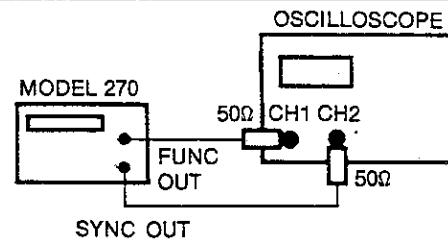

Figure 2-3. Setup
Make the equipment setup as shown in figure 2-3 and perform the steps in table 2-3 to verify Model 270 operation. If further explanations are required, refer to figure 3-1 and table 3-1.
| 14 | Quality Assurance Procedure | Connect Model 270 and oscilloscope as shown in figure 2-3. Scope setting: CH1 2 V/div, horizontal 0.2 ms/div; CH2 2 V/div; trigger on CH2. | Press: RCL 2000 EXEC | Display: (0) BEGIN QA PROC Scope: CH1 5 Vp-p 1 kHz sine wave CH2 2.5 Vp-p 1 kHz square wave |